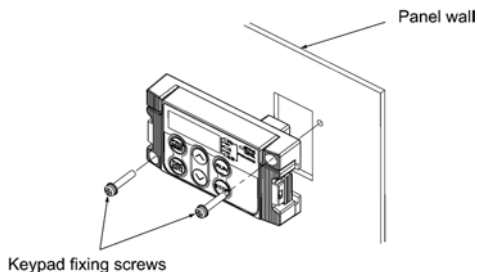

Figure 2.27 Mounting a Keypad on the Panel Wall
- ③ Make a cut-out on the panel wall. For details, refer to Chapter 8, Section 8.4.2 "Standard keypad."
- ④ To mount the keypad on the panel, fix it firmly using a pair of M3 screws put through the taps shown below. (Figure 2.27.)